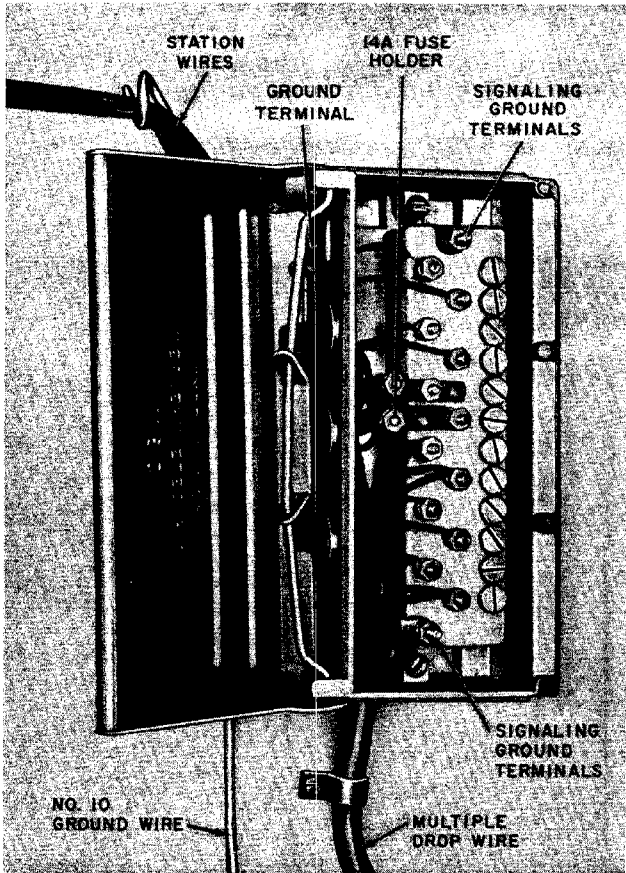

Fig. 8—116C Protector
4.07 The 116C Protector is for outdoor mounting. It is shown served by multiple drop wire (Fig. 8). Terminate all drop wire during the initial installation. Terminate the drop wire conductors under the bottom nuts. Terminate station wire conductors between the washers under the top nut. A ground terminal is provided on the rear of the metal housing. The signaling ground binding post is internally bonded to the ground terminal.